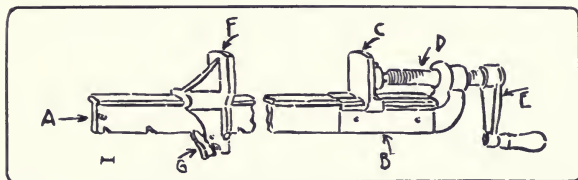

Fig. 176. Steel-Bar Carpenter's Clamp. a. Steel Bar. b. Frame. c. Tip. d. Screw. e. Crank. f. Slide. g. Dog.
*Clamps* are made of both wood and iron, the most satisfactory for speed, strength, and durability are steel-bar carpenter clamps, Fig. 176. They vary in length from 1½ ft. to 8 ft. The separate parts are the steel bar A, the cast-iron frame B, the tip C